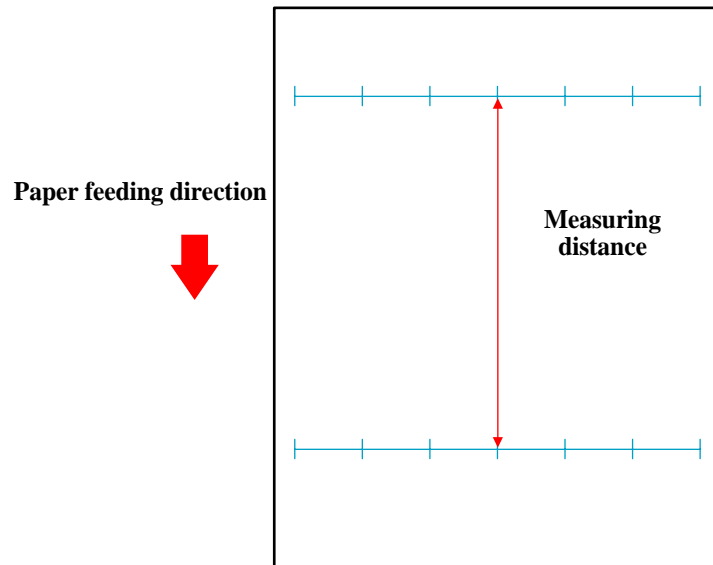

Figure 5-69. Adjustment Pattern
4. Measure the distance as shown in Figure 5-69.